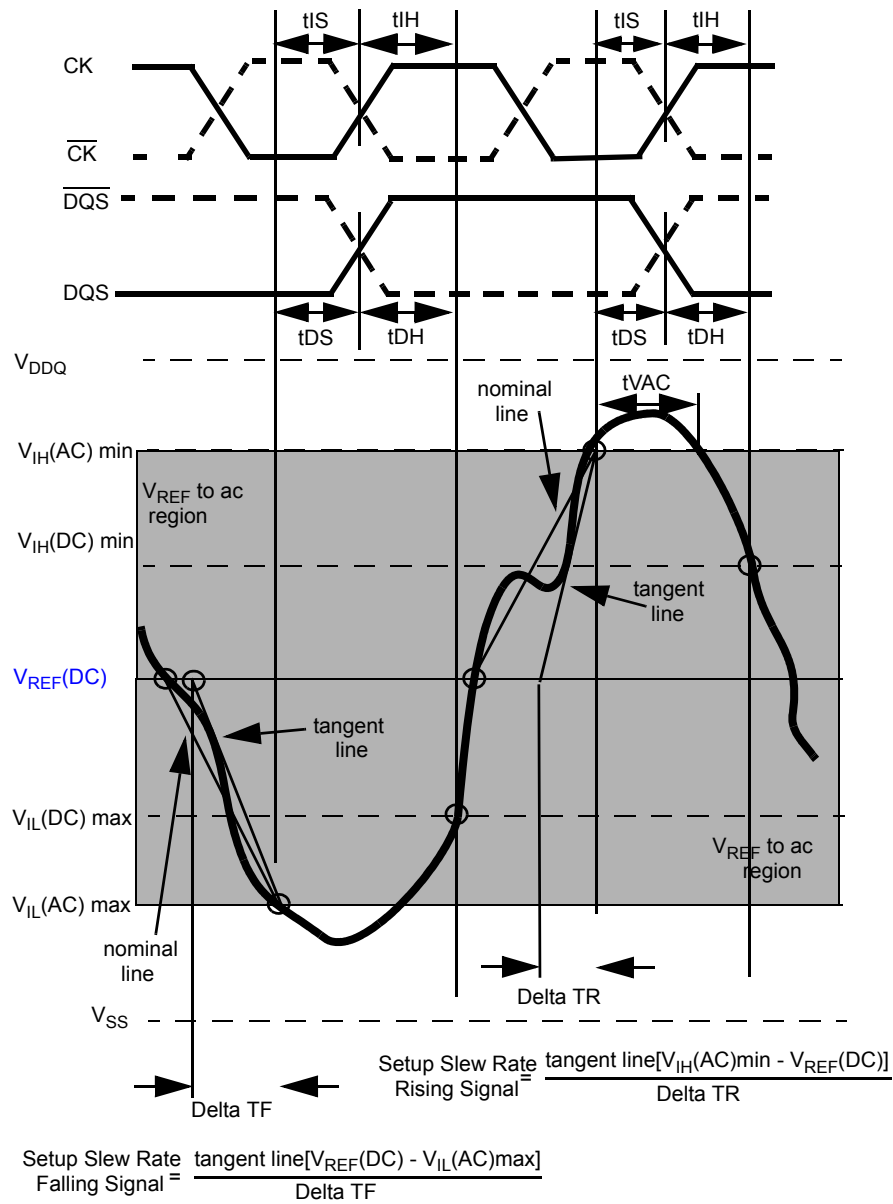

Figure 23. Illustration of tangent line for setup time t_{DS} (for DQ with respect to strobe) and t_{IS} (for ADD/CMD with respect to clock)
Example: tIS (total setup time) = tIS(base) + ΔtIS Setup (tIS) nominal slew rate for a rising signal is defined as the slew rate between the last crossing of V_{REF}(DC) and the first crossing of V_{IH}(AC)min. Setup (tIS) nominal slew rate for a falling signal is defined as the slew rate between the last crossing of V_{REF}(DC) and the first crossing of V_{IL}(AC)max. If the actual signal is always earlier than the nominal slew rate line between shaded 'V_{REF}(DC) to ac region', use nominal slew rate for derating value (see Figure 23). If the actual signal is later than the nominal slew rate line anywhere between shaded 'V_{REF}(DC) to ac region', the slew rate of a tangent line to the actual signal from the ac level to dc level is used for derating value (see Figure 25).